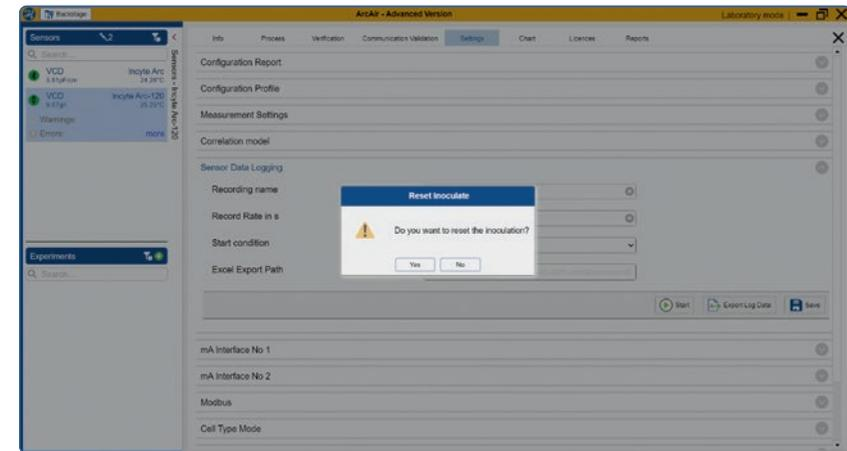

Figure 34: Example Screen of Sensor Data Logging using a Manual Start Option
- a. *Manual Start/Stop* > used in ArcAir with the Computer Software, or via mobile version (see Figure 33). A pop up window will appear asking about reset inoculation. Please select yes, if no inoculation has been done for this run (Figure 34). Be aware that the inoculation button in the *Experiment* is enabled when «no» is selected.